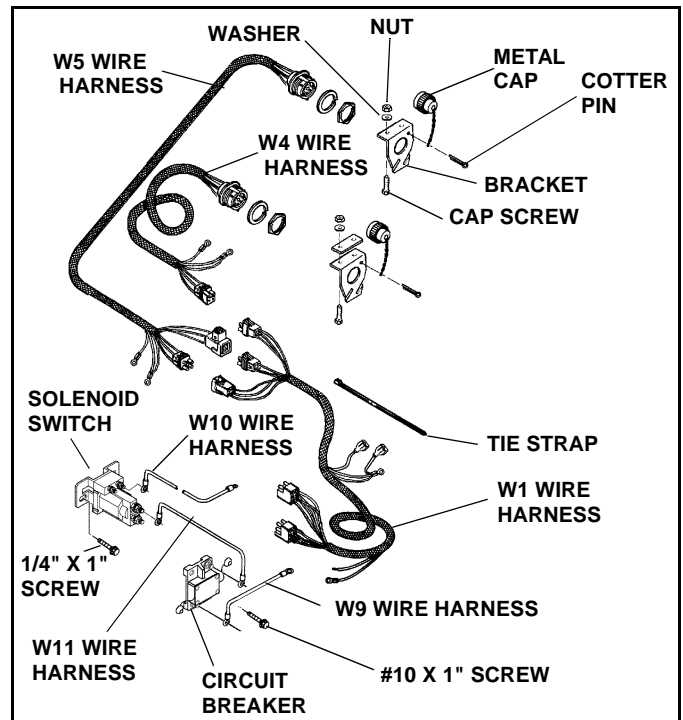

Figure 1-1
2. Remove the Wiring Harness from the carton and locate the following parts (See Figure 1-1):